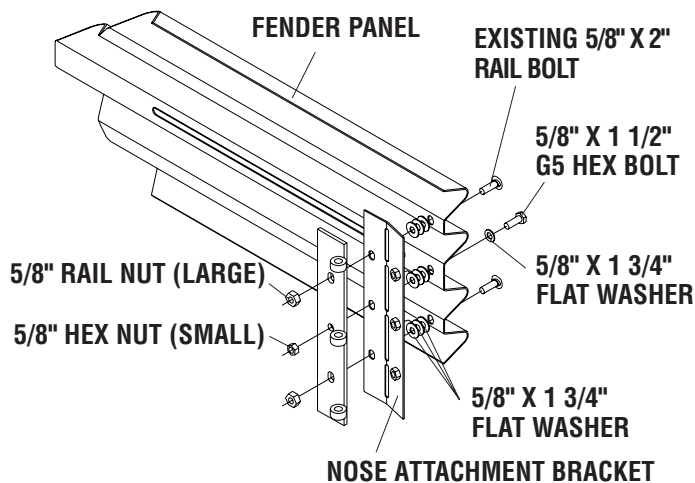

Figure 71
- Step 2. (Figure 71) Bolt nose attachment bracket between hinge and fender panel with 5/8" x 1 1/2" hex bolts, 5/8" nuts and 5/8" flat washers.